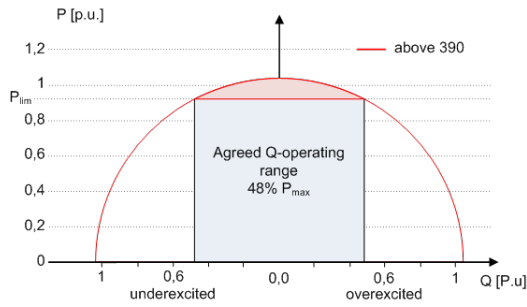

Fig. 58: P-Q operating range with limited active power (Qmax=Smax≠Pmax) for PV inverters
Some grid connection rules insist that the agreed reactive power be supplied from every operating point of the plant without a reduction in the actual active power. Considering the fact that all KACO TL3 inverters have a semi-circular(PV) full-circular(BI) P-Q operating range, a reduction in the active power is, however, required during operation at maximum active power because an apparent power reserve is not available. By adjusting  $P_{lim}$  the maximum active power can be restricted in order to establish an apparent power reserve and ensure that the agreed reactive power can be delivered from any active power operating point. The graphic [See figure 58 ▶ Page 69] shows the appropriate P-Q operating range with a required example active power of 48% of the maximum apparent power of the plant or 43% of the maximum active power of the plant.